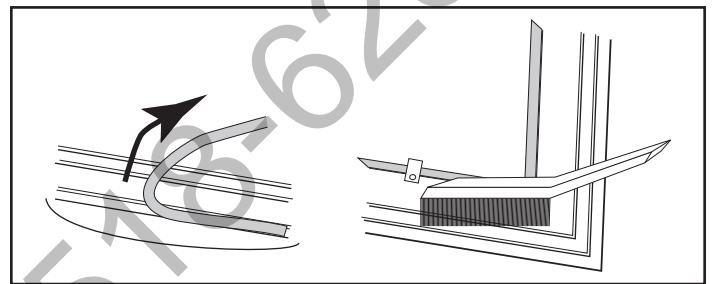

Figure 23 - Remove gasket, then clean channel with wire brush.
1. Remove the existing gasket by grasping an end and pulling firmly. (Figure 23)